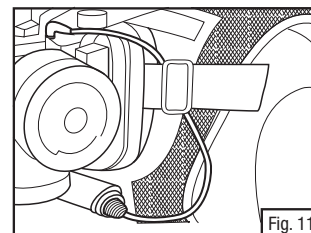

Fig. 11
10. Feed power cord between retaining strap and vest down to the battery pouch (Fig. 11).